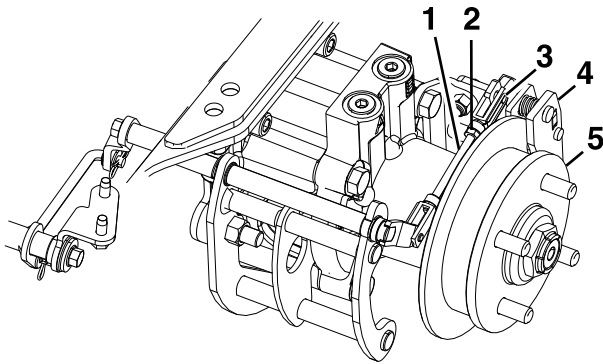

Figure 75
8. Remove the spring clevis pin from the rear linkage and caliper (Figure 75).
12. Tighten the jam nut on the rear linkage (Figure 75).